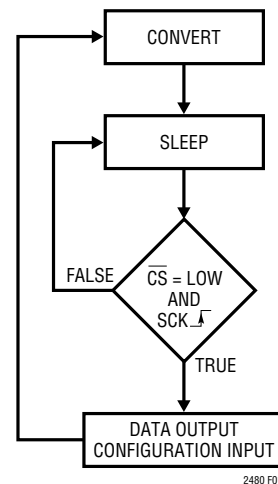

Figure 1. LTC2480 State Transition Diagram
The LTC2480 is a low power, delta-sigma analog-to-digital converter with an easy to use 4-wire serial interface and automatic differential input current cancellation. Its operation is made up of three states. The converter operating cycle begins with the conversion, followed by the low power sleep state and ends with the data output (see Figure 1). The 4-wire interface consists of serial data output (SDO), serial clock (SCK), chip select (CS) and serial data input (SDI).